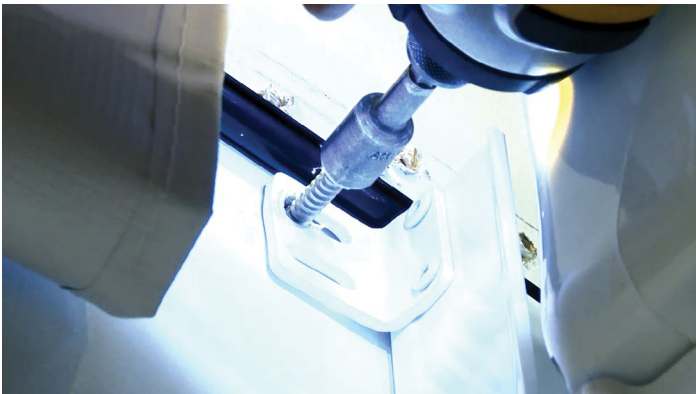

Fig.24
17. Secure the upper section of the drive mount arm to the unit with 2 of the provided #14 x 1 1/4" screws (**Fig.24**), aligning directly below the holes of the awning removed.